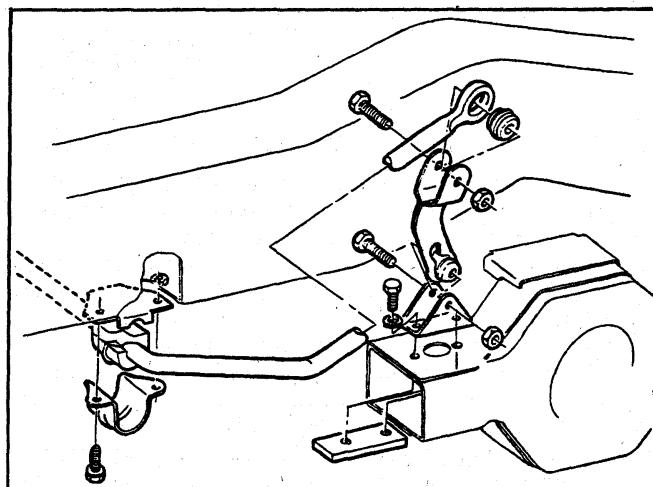

Fig. 71—Stabilizer Shaft Installation (Corvette)
2. Disconnect stabilizer shaft at both torque arms (fig. 71). Remove stabilizer shaft brackets from the frame and withdraw assembly from vehicle.